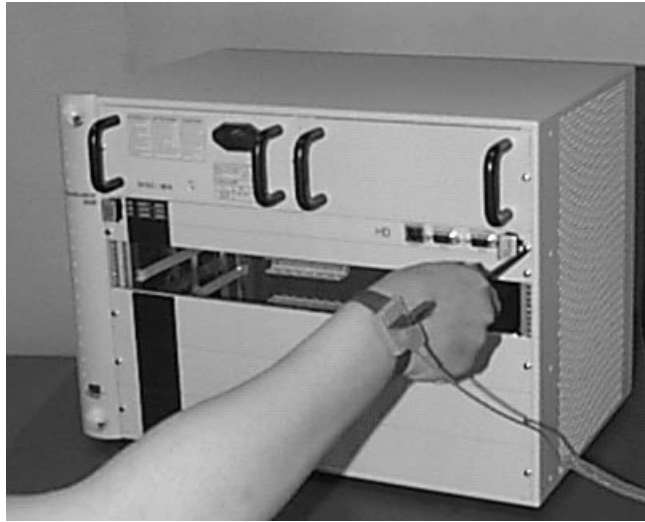

Figure 2-1 Loosening the Captive Screws
- 2 With the #1 flathead screwdriver supplied, loosen the two captive screws located on the far left and right of the module near the ejector handles (Figure 2-1). Do not remove the screws.